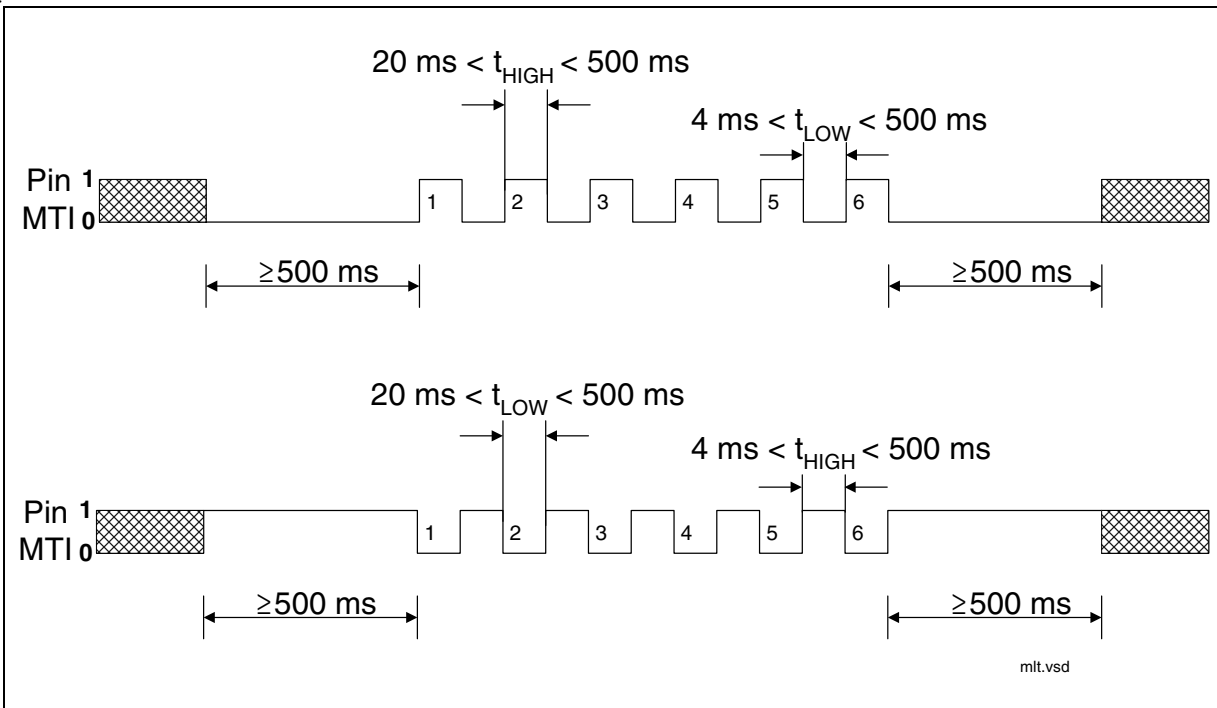

Figure 11 Pulse Streams Selecting Quiet Mode
**Figure 11** shows examples for pulse streams with inverse polarity selecting Quiet Mode.